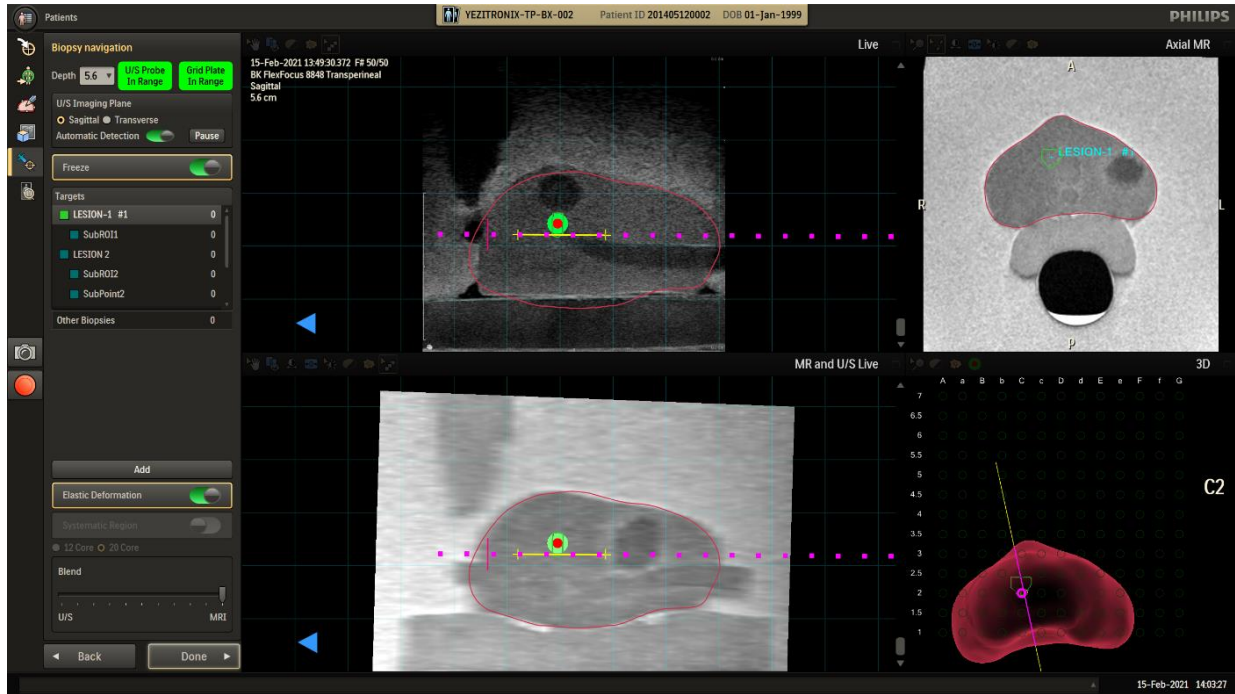

Figure 61: Transperineal Biopsy with Grid Plate
5. When the biopsy sample is taken, select **FREEZE** or press the foot pedal to temporarily interrupt real-time, cine viewing. Scroll through the U/S images using the mouse wheel or the cine scroll slider bar on the right side of the viewport to locate the point in time where the distal tip of the biopsy needle is fully deployed (Figure 61).